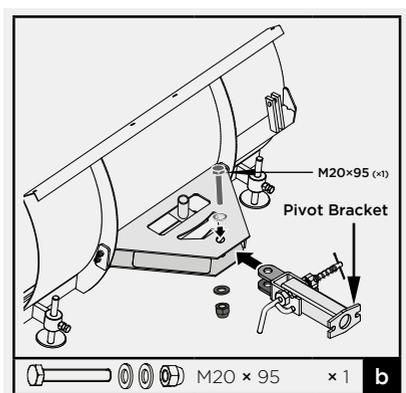

Figure 11
2. Position the pivot bracket inside the mounting bracket and align with mounting bracket holes. Secure with M20x95 hex bolt, washers and nut (figure 11).